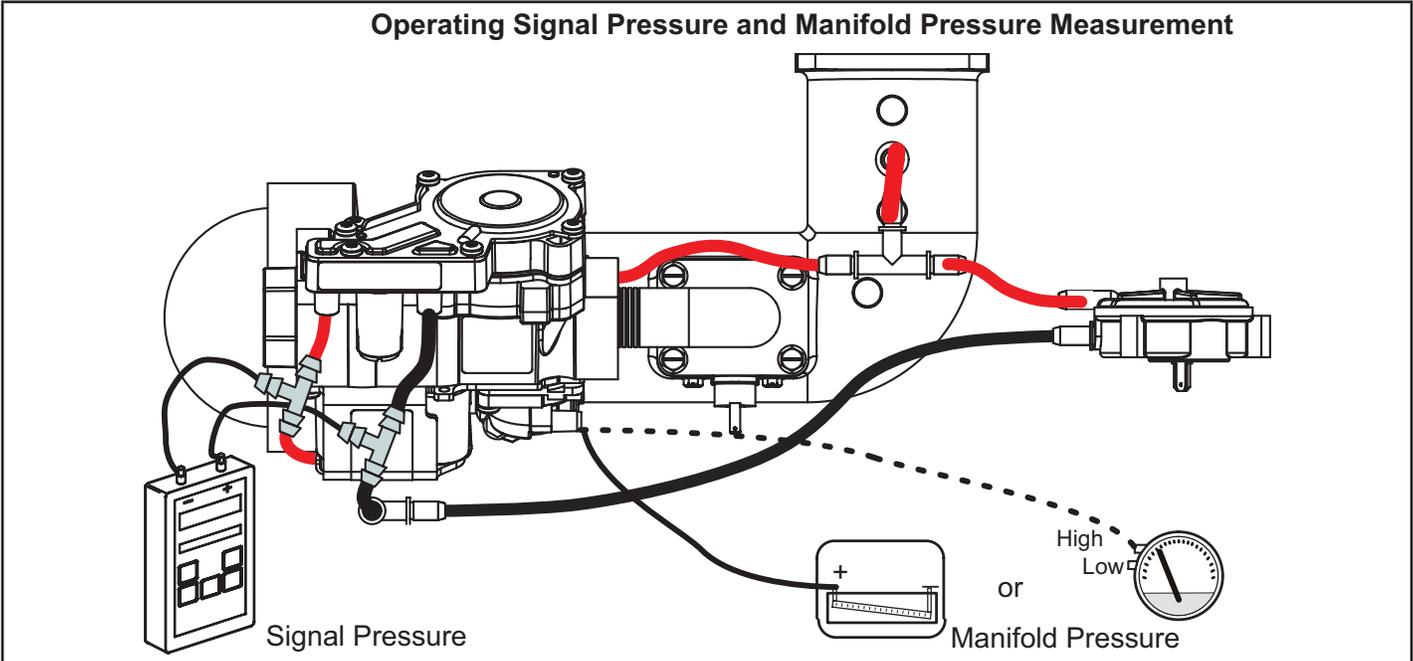

FIGURE 5
- 3 - Install hoses and meter as shown in figure 5 for signal pressure measurement.